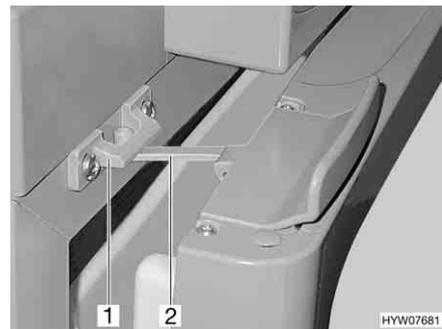

Fig. 178 Refrigerator door in ventilation position (Thetford)
- Open the lock (Fig. 178,2) and snap it into the locking catch (Fig. 178,1). The refrigerator door will then stay slightly open.